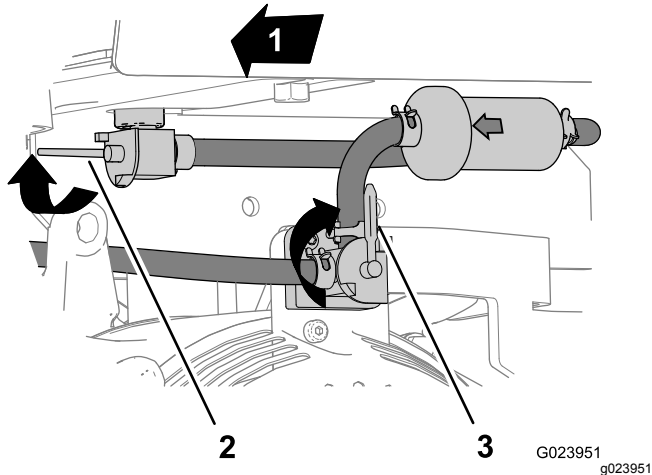

Figure 23
2. Rotate the lever for the tank-shutoff valve forward and up to the OFF position (Figure 23).
4. Rotate the lever for the engine switch clockwise to the STOP position, and allow the engine to cool (Figure 23).
12. Open the tank-shutoff valve and turn on the engine switch, and check for fuel leaks (Figure 23).